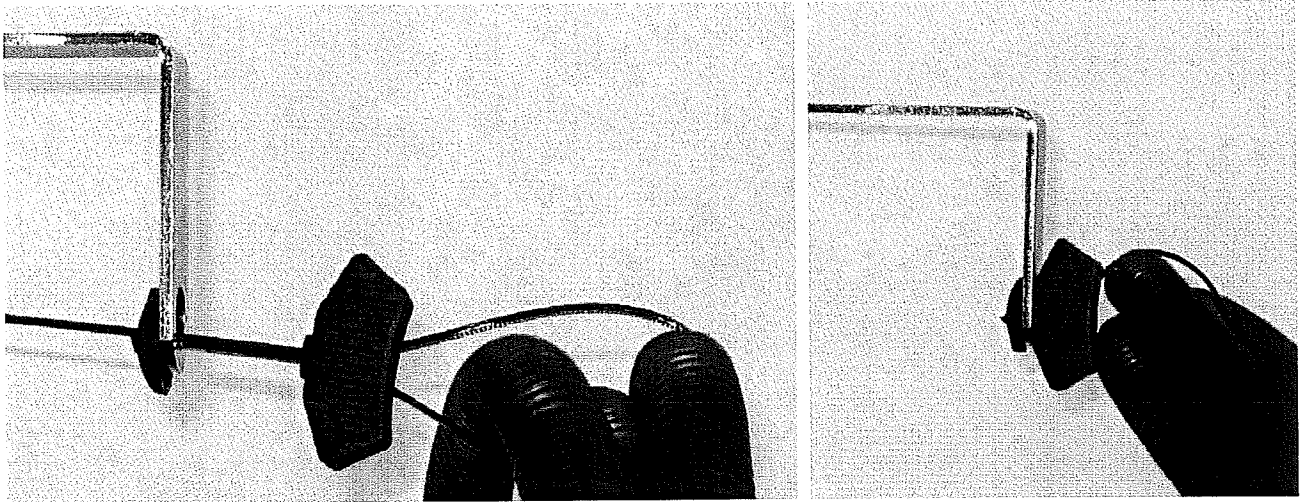

Figure 13
22. Tighten the cable support bracket mounting hardware. Secure the Clean Power fuse housings to the enclosure using one (1) Pan Head Self-tapping Screw, TBB 69003249 for each housing.
23. Use one (1) Tie Wrap, TBB 61371374 and one (1) Saddle Mount, TBB 61480921 to secure the Main Body, Chassis, and Starter power cables to the cable support bracket. The bends of the cables should be natural and apply No force or tension to the cables. **Figure 13**